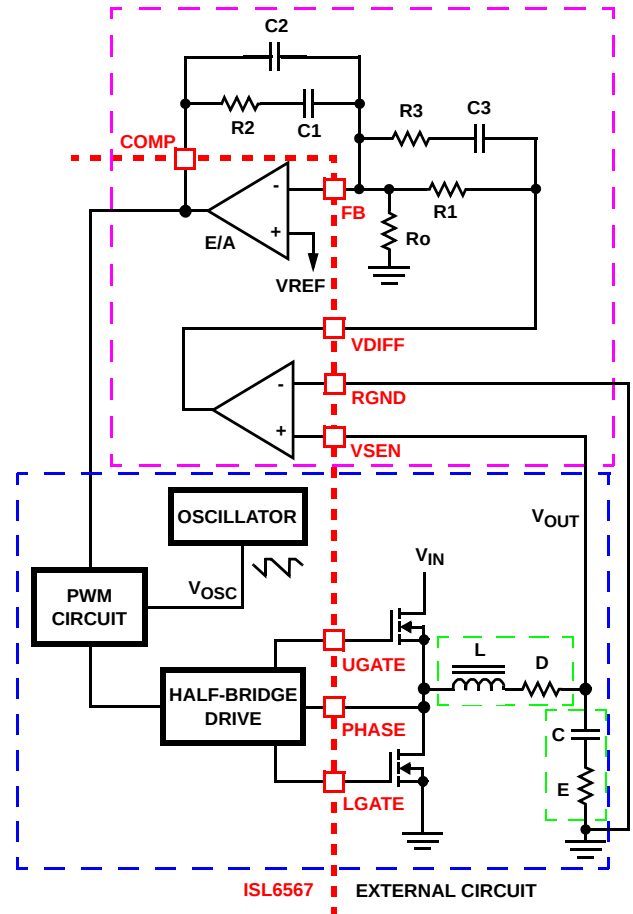

FIGURE 24. VOLTAGE-MODE BUCK CONVERTER COMPENSATION DESIGN
Figure 24 highlights the voltage-mode control loop for a synchronous-rectified buck converter, applicable, with a small number of adjustments, to the multi-phase ISL6567 circuit. The output voltage (V_{OUT}) is regulated to the reference voltage, V_{REF} , level. The error amplifier output (COMP pin voltage) is compared with the oscillator (OSC) modified saw-tooth wave to provide a pulse-width modulated wave with an amplitude of V_{IN} at the PHASE node. The PWM wave is smoothed by the output filter (L and C). The output filter capacitor bank's equivalent series resistance is represented by the series resistor E .
1. Select a value for R1 (1kΩ to 5kΩ, typically). Calculate value for R2 for desired converter bandwidth (F₀). If setting the output voltage via an offset resistor connected to the FB pin, R_o in Figure 24, the design procedure can be followed as presented. However, when setting the output voltage via a resistor divider placed at the input of the differential amplifier, in order to compensate for the attenuation introduced by the resistor divider, the